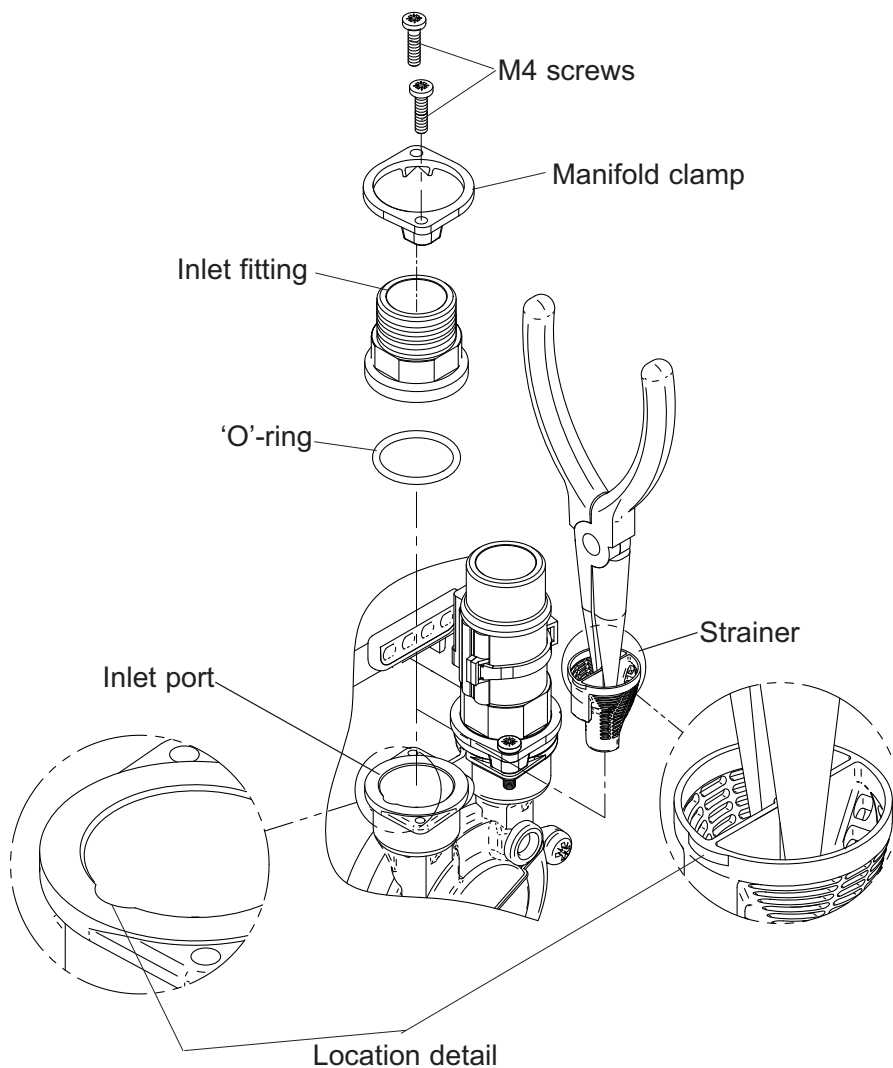

Fig. 18
- Remove M4 screws (2 off) from inlet assembly, lift brass inlet fitting (with 'O'-ring) and clamp away from pump casing (Fig. 18).
- Remove strainer with long nose pliers noting location lug position upon removal (Fig. 18) and clean thoroughly.
- Refit strainer taking care to position lug in body inlet port location slot (Fig. 18) and re-assemble pipework. Tighten M4 clamp screws to 1.5 Nm torque.